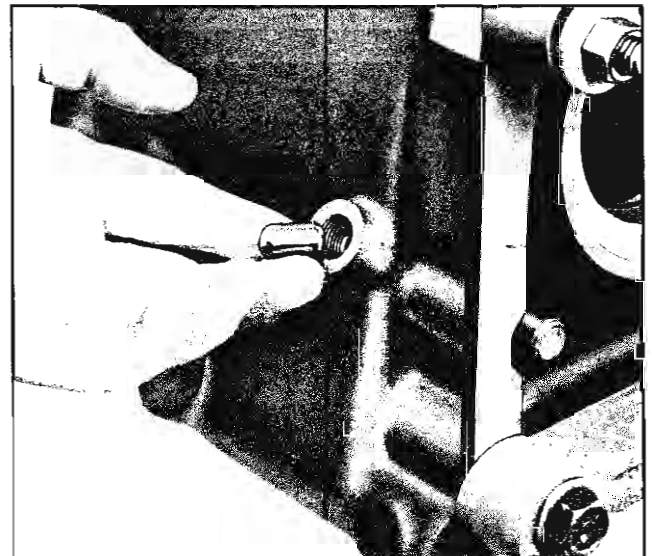

Fig. 7-36 Installing Interlock
12. Coat interlock lightly with oil and install in detent cavity (Fig. 7-36).